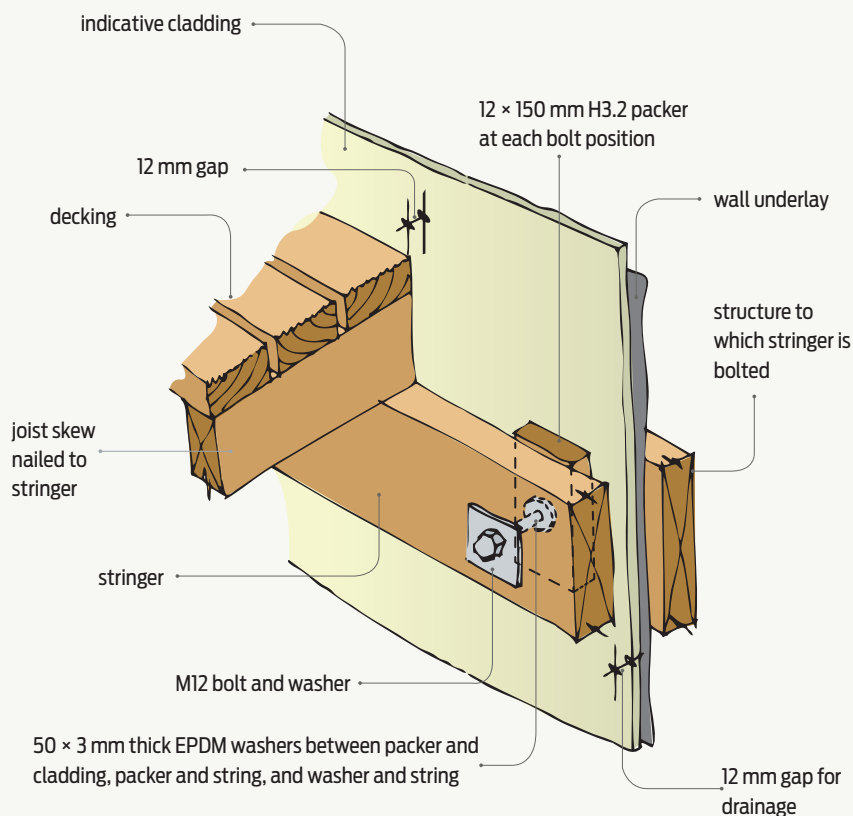

Figure 3 Connection of deck stringer to cladding – direct-fixed.
- a 12 mm minimum gap between the cladding and the decking for drainage (E2/AS1 paragraph 7.1.1) – see Figures 3 and 4